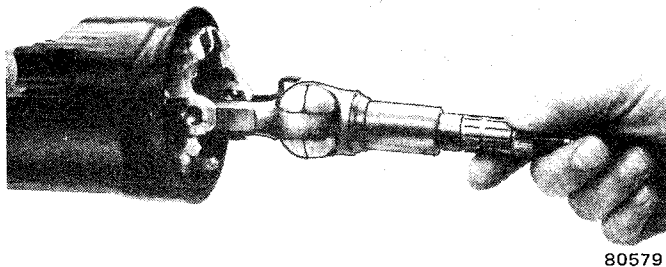

Fig. 2J-57 Steering Shaft Removal/Installation
(38) Disconnect steering shaft at intermediate shaft coupling.
(39) Remove steering shaft through upper end of column (fig. 2J-57).
(40) Remove support attaching bolts and remove support (fig 2J-58). Use 1/4-inch, 12-point deep socket to remove bolts.